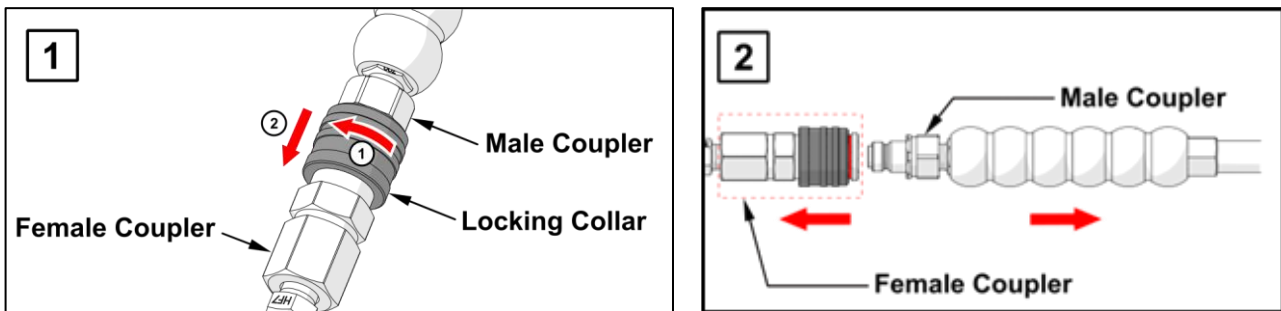

Figure 5.2: Hydraulic Disconnections
5.2.2 Disconnections (See figure 5.2)